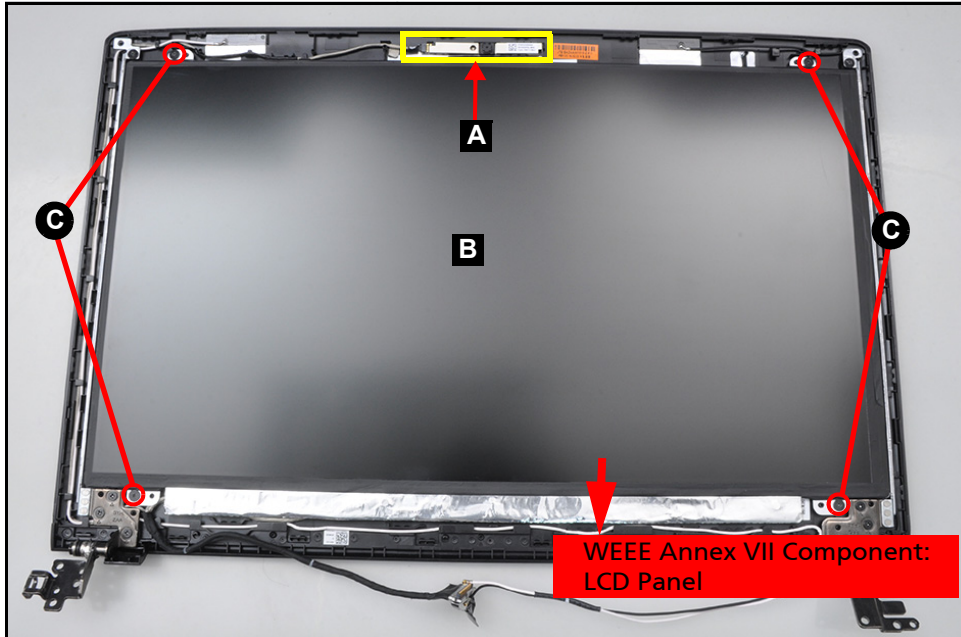

Figure 3-58. LCD Panel and Camera Location
1. Find the LCD panel (B) in the LCD cover (Figure 3-58).
2. Remove four (4) screws (C) securing the LCD panel in place (Figure 3-58).
1. Find the camera module (A) on the LCD cover. Refer to Figure 3-58.